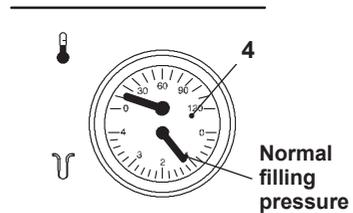

Fig. 2.2
Ensure that the c.h. circuit is regularly filled with water (even if the boiler is only used for d.h.w. supply) checking that the pressure indicated on pressure gauge 4 is not lower than that shown in Fig. 2.2.
If the pressure reading on the pressure gauge is below that shown in Fig. 2.2, then the system will require topping up. A filling loop is normally provided by the Installer for this purpose.
- Open the valves of the filling loop and watch the gauge until it reaches normal filling pressure as shown in Fig. 2.2.
You should check that the pressure on the temperature and pressure gauge (Fig. 2.2 on page 10) is not below the correct setting.